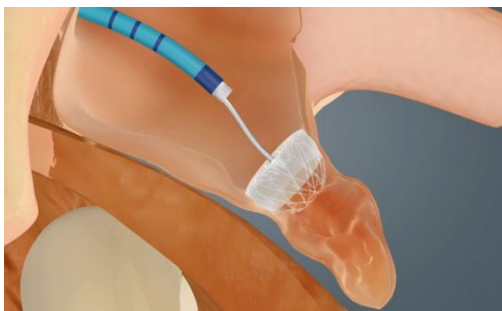

Figure 2 .LeSifter™ Device Position and Size
- A. Position: Plane of maximum diameter of the Occluder should be at or just distal to the LAA stium, where possible (see Figure 2), while meeting all other PASS criteria.